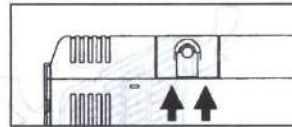

Fig. 5-16: Control Unit Cover Removal
1. Remove harness access/control unit cover from top of heater with a small flat blade screwdriver (see figure 5-16).